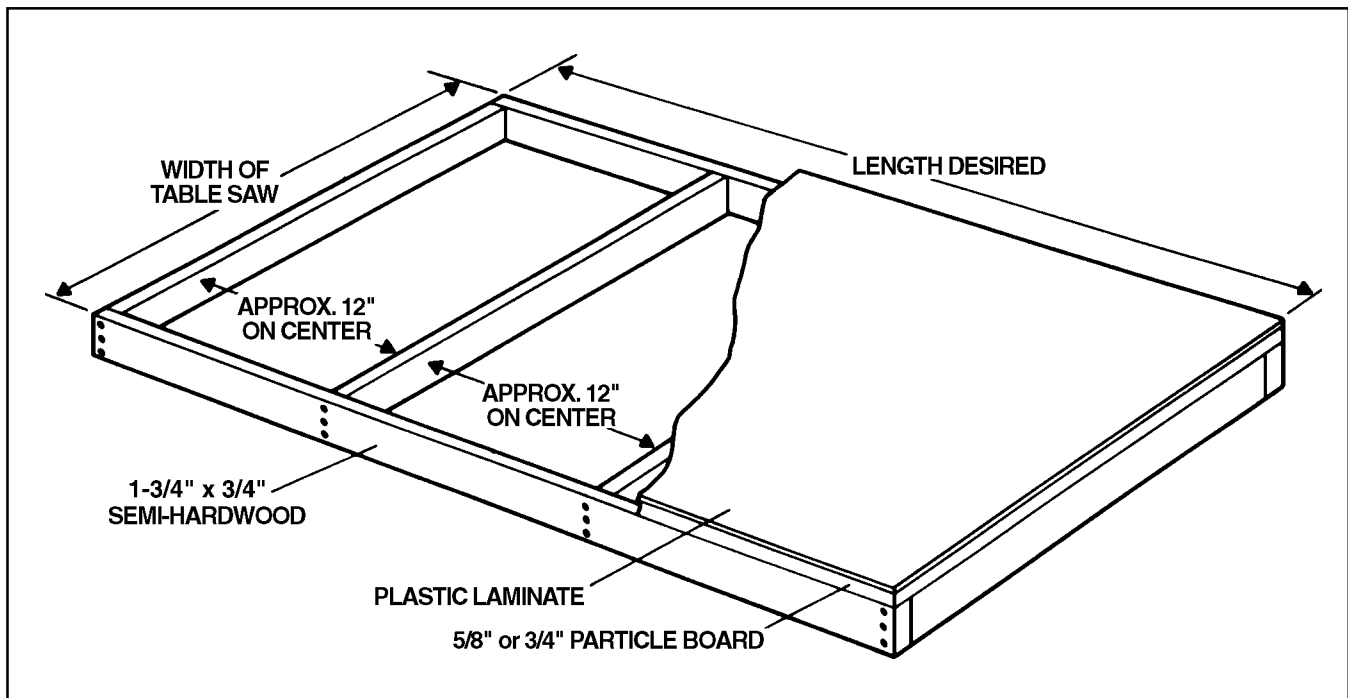

Fig. 15
1. If you did not purchase the accessory right extension table for use with your T-Square® Fence, construct an extension table by following the dimensions shown in Fig. 15.